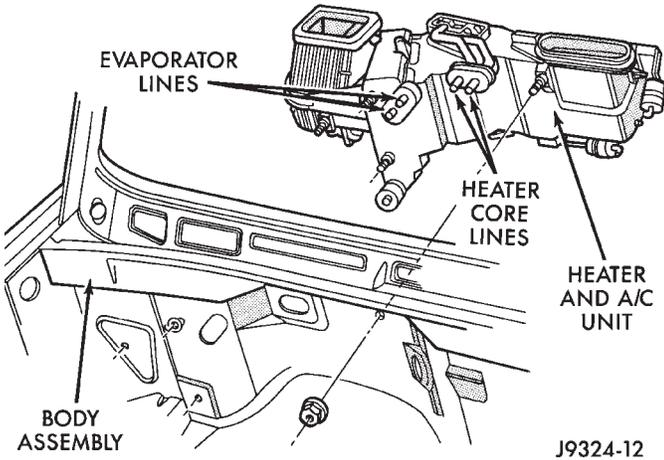

Fig. 48 Heater-A/C Housing Remove/Install
(8) Remove the coolant reserve/overflow bottle from the passenger side inner fender shield. Refer to Group 7 - Cooling System for the procedures.
(9) Remove the Powertrain Control Module (PCM) from the passenger side dash panel in the engine compartment and set it aside. Do not unplug the PCM wire harness connectors. Refer to Group 14 - Fuel System for the procedures.
(10) Remove the nuts from the heater-A/C housing mounting studs on the engine compartment side of the dash panel (Fig. 48).